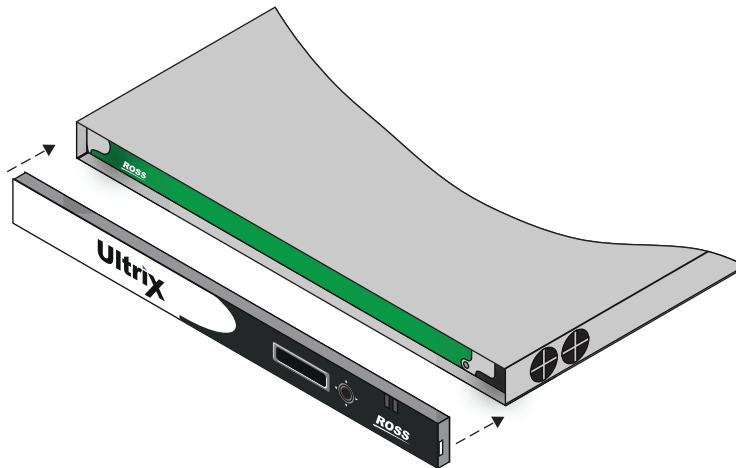

Figure 91 ULTRIX-NS-FR1 — Aligning the Door to the Chassis
1. Align the door to the front of the router, ensuring that the door is oriented upright, the corner with the Ultrix logo is in your left hand, and the corner with the Ross logo is in your right hand. (Figure 91)